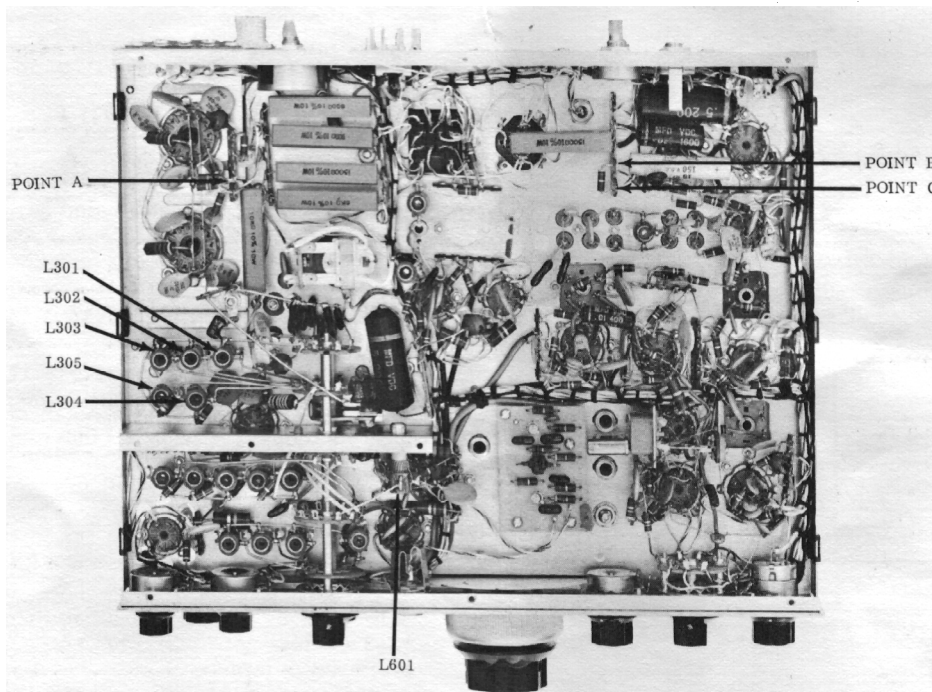

FIGURE 5 BOTTOM VIEW, MODEL 350 TRANSCEIVER
1. Remove screen voltage from V4 and V5 by disconnecting orange wire to terminal strip immediately adjacent to V5 base. (A, Fig. 5).
2. Connect VTVM across R412, 4.7K resistor between pins 1 and 2 of terminal strip immediately behind bifilar coil in crystal filter range -15 volt scale. (Points B and C, Fig. 5).